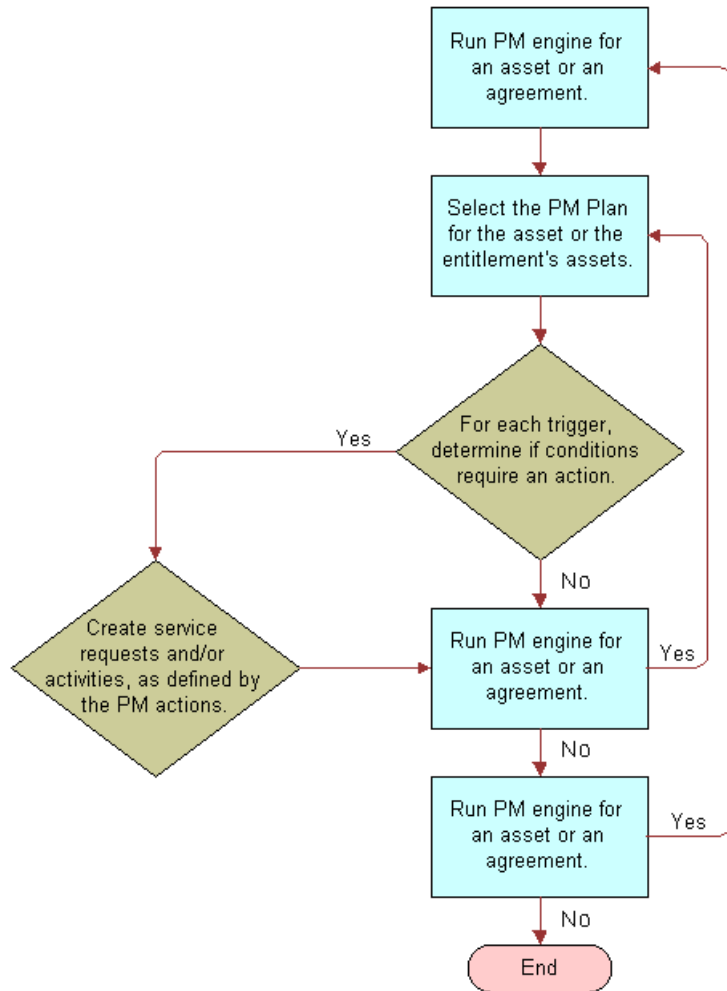

Figure 28. Logic of the Preventive Maintenance Engine
The Preventive Maintenance Engine can automatically generate preventive maintenance (PM) service requests and actions (or activities), triggered by elapsed time, asset usage, measurement thresholds, or events (see Figure 28 on page 380):
When a PM activity is required, you use Field Service to create service requests and detailed activities. Figure 28 on page 380 shows the process of the Preventive Maintenance Engine, which is: